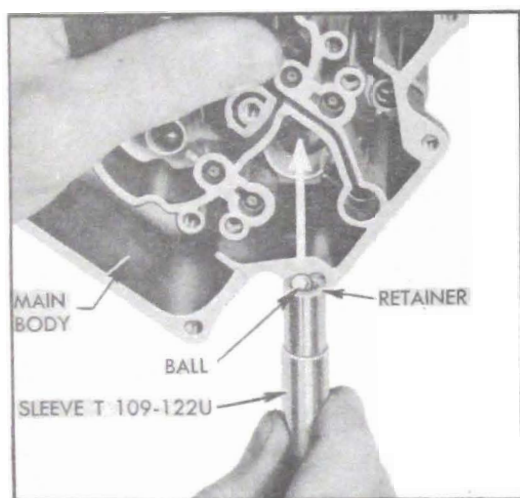

Figure 3-35—Installation of Intake Check Ball and Retainer
8. Place a *new* intake check ball retainer and check ball in small end of the sleeve of Loader Unit T109-122U, holding sleeve vertical. Invert main body and insert parts and tool into pump cylinder, then turn body over and tap sleeve to seat the retainer in recess at bottom of pump cylinder. See figure 3-35.